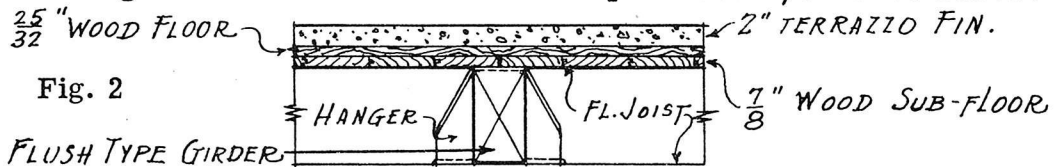

Fig. 2
4. The elevation at the top of the girder in Figure 2, is 171.46 feet. Figure the elevation of the top of the $\frac{7}{8}$ " wood floor.
5. If the top of the girder in Figure 2, is 156.92 feet in elevation, what is the elevation of the top of the $\frac{25}{32}$ " wood floor?
6. Figure the elevation at the top of the terrazzo floor in Figure 2, if the elevation at the top of the girder is 127.95 feet.